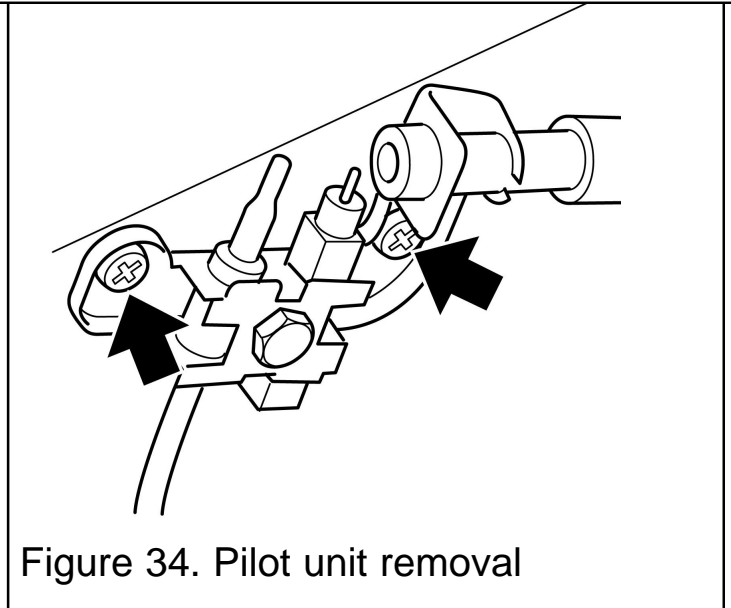

Figure 34. Pilot unit removal
6. Remove the two screws securing the pilot unit. See figure 34.